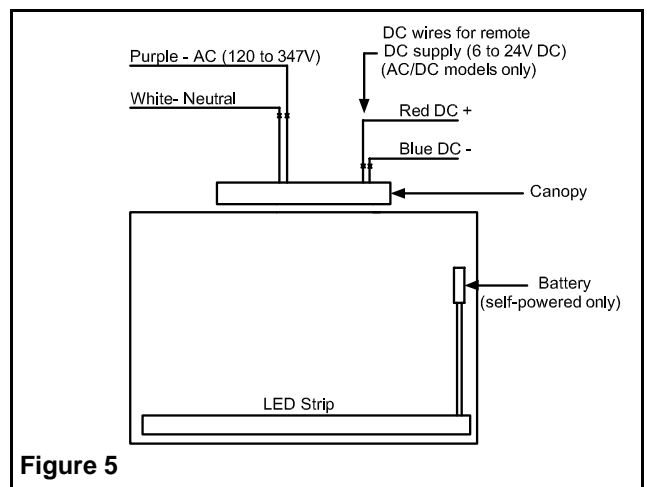

Figure 5
5. Make the proper connections, our system accepts an input voltage of 120 to 347VAC (see fig. 5). Connect the purple (120 to 347 VAC) and white (Neutral) leads to the building utility. Feed excess wire into the junction box. For remote powered DC units, connect the red wire to the positive of the DC supply and the blue to the negative (6 to 24 VDC).